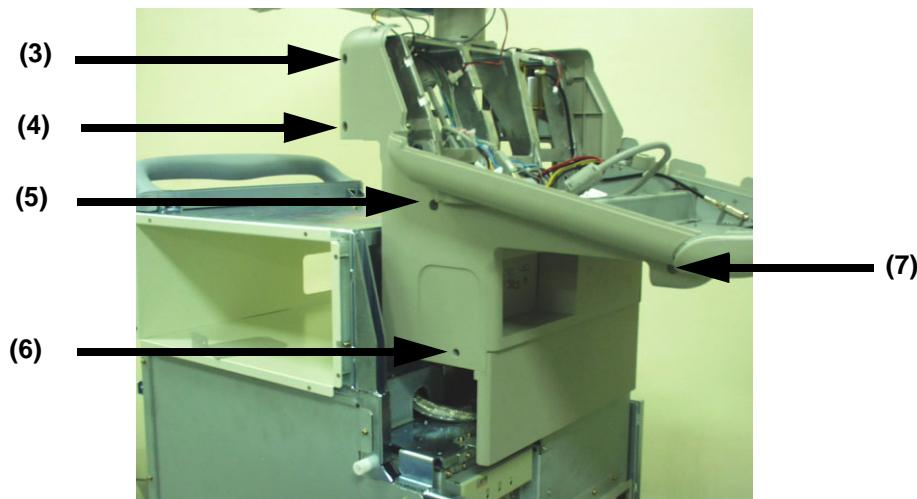

Figure 8-53 Unscrew 5 screws to remove OP L Cover
- 7.) Unscrew five screws (3-7) and remove OP Side L Cover. Refer to Figure 8-53.